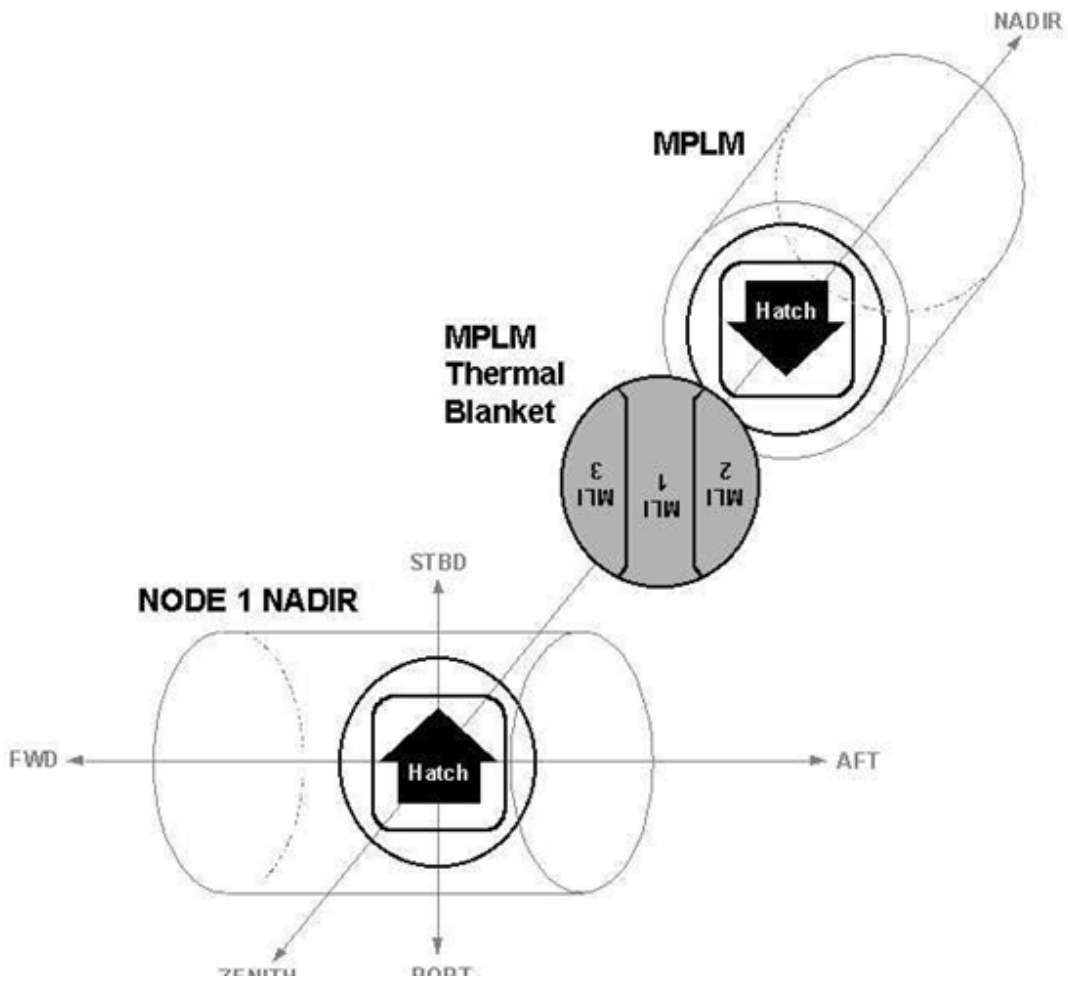

Figure 1. Orientation of PTCS PMM Thermal Blanket Relative to Opening Direction of Hatches.
4. Figures 1 to 5 are references for the Passive Thermal Control System (PTCS) PMM Thermal Blanket Removal.